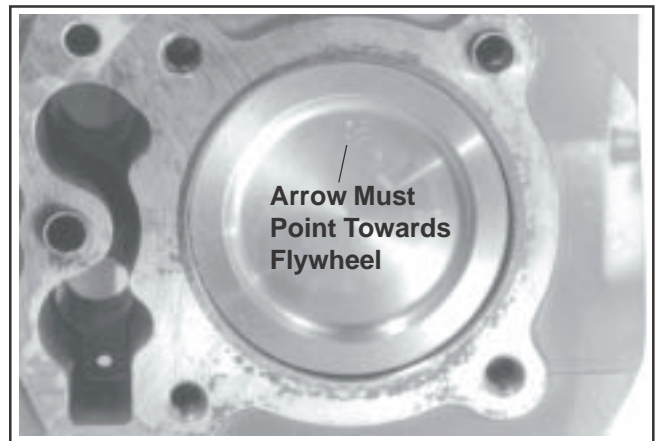

Figure 11-7. Piston Installation Identifier.
- Place the ring compressor on the top surface of the crankcase and make certain it is seated down around the entire circumference. The **FLY** arrow on the piston should point toward the flywheel side of the crankcase. See Figure 11-7. Use a soft, rubber grip hammer handle and tap the piston/connecting rod into the bore. The first tap should be rather firm, so the oil ring moves from the compressor into the bore in one smooth, quick motion. Otherwise the oil ring rails may spring out and jam between the ring compressor and the top of the bore.